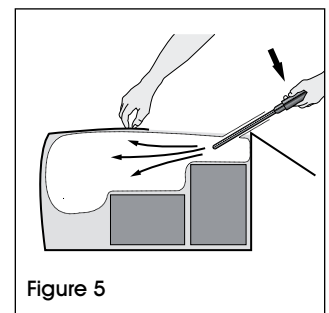

Figure 5
5. Continue to hold the three box flaps closed while the bag inflates. (See Figure 5)